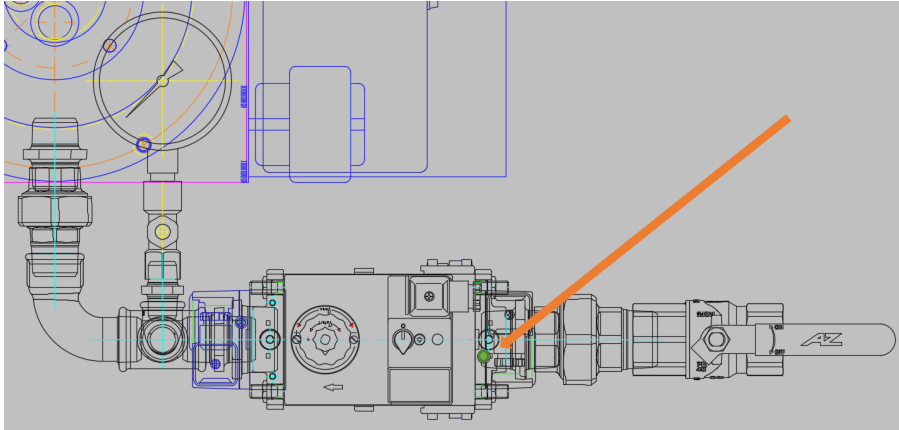

Figure 21: Gas control line, measuring point at the gas pressure switch min.
- ⊗ Connect the pressure gauge to the measuring point (see drawing fig. 21).